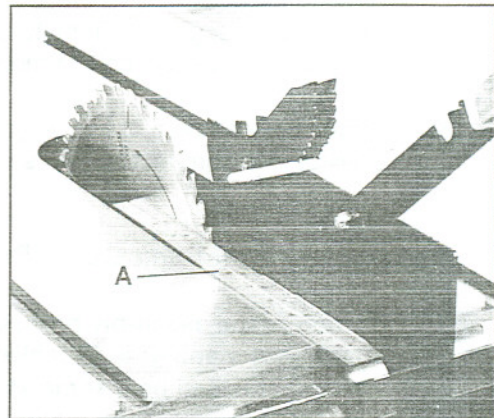

Fig. 17
- Raise blade guard away from table and hold anti-kickback pawls away from table surface with a pencil. (Fig. 17)
- Using an accurate straight edge (A, Fig. 17), align the splitter with the saw blade.